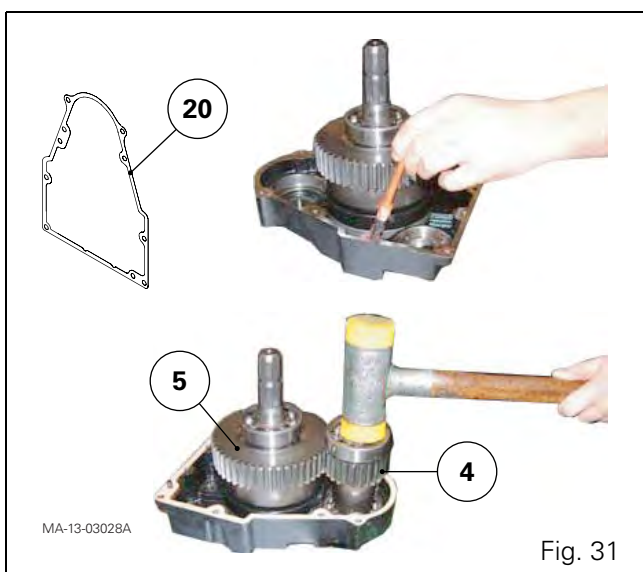

Fig. 31
63. Grease the seal plane of the housing to keep the gasket (20) in place (Fig. 31).
64. Place the clutch (5) and the pinion (4) in the rear part of the housing (Fig. 31).